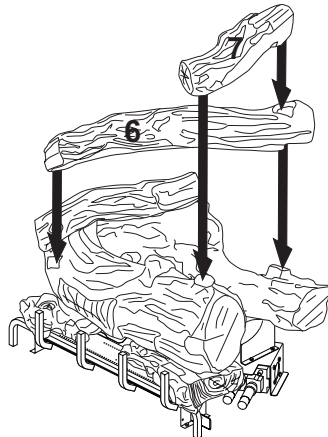

Figure 36 - Installing Logs #6 and #7
6. Place top middle log (#6) onto rear log (#1) and front log (#3). Match square peg on bottom of log #6 with square hole on log #4 and round hole on log #6 with peg on log #1 (see Figure 36).
7. Place top right log (#7) onto top middle log #6 and front log (#3) matching peg on bottom of top right log #7 with hole on top middle log #6 and hole in top right log #7 with peg on front log (#3) (see Figure 36).